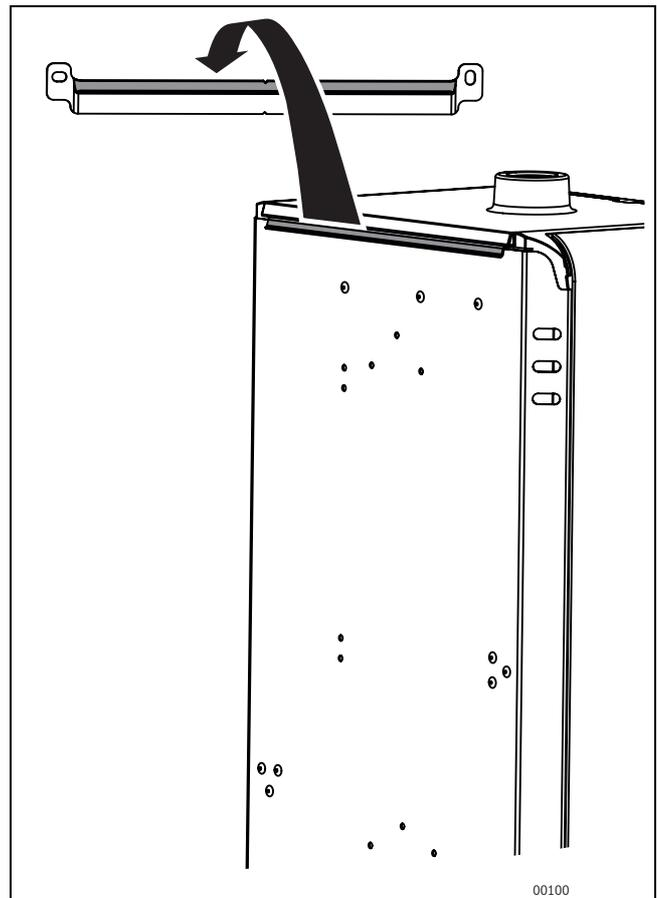

Fig. 15 Hanging the indoor unit
- ▶ Hang the indoor unit centrally onto the mounting rail (→Fig. 15).